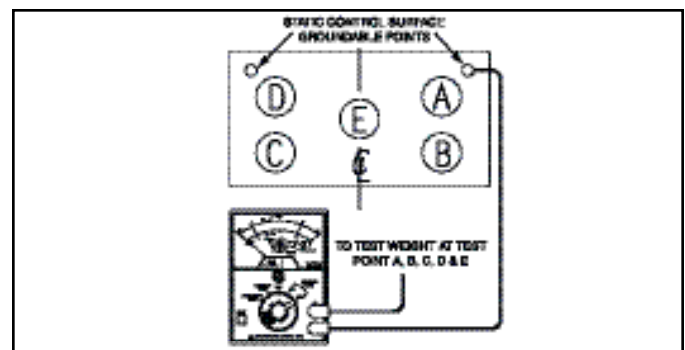

Figure 5. Qualification Tests of Installed Surfaces.
B. Set the SCS 701 Analog Surface Resistance Megohmmeter Kit on a table top or other stable surface and place a test weight at the desired test point as shown in Figure 5. Connect the test leads to the meter using the right angle banana plugs at the meter. Then connect one of the test leads to the test weight and the other to the ESD GROUND using one of the supplied clips.
[Measurement of resistance of the top surface to the groundable point of the static control surface (RTS-GP)]. GROUNDABLE POINT is the point at which the grounding conductor is connected to the static control surface; the GROUNDABLE POINT is most commonly a snap (mats), a bolt (laminates), or a strip of conductive foil tape (flooring). This QUALIFICATION measurement is similar to those described in the test description section and is used to verify the correct installation of the GROUNDABLE POINT by the manufacturer or by the user. While the test procedure is the same, the test setup is slightly different; see Figure 5.